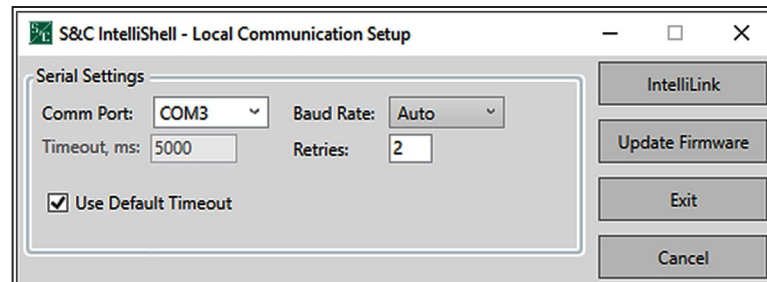

Figure 14. The S&C IntelliShell—Local Communication Setup dialog box.
- (d) Click on the **Update Firmware** button. See Figure 14.